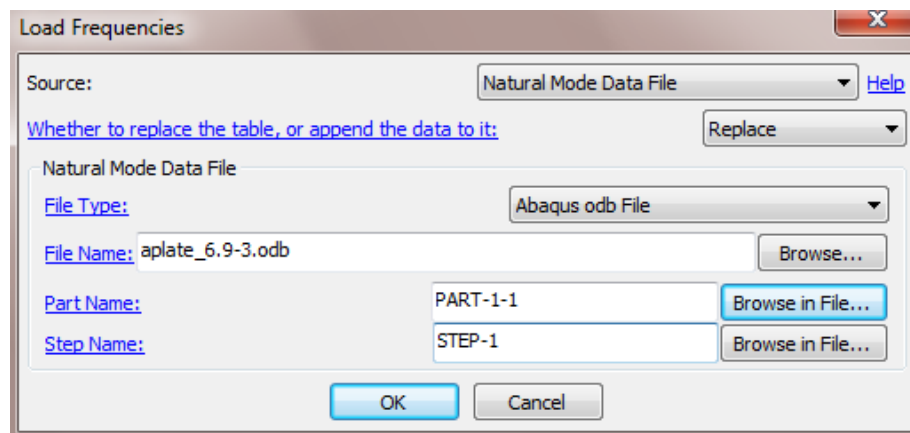

Figure 7.20 Load frequencies from the natural mode data file.
7.2.2.4. Natural Mode Data File Analysis frequencies could be extracted from a natural mode data file using this option (Figure 7.20). Select appropriate parameters and press OK to load natural frequencies. A new dialog box with a list of available natural frequencies from the natural mode data file appear. See Figure 5.8. Select the frequencies of interest by checking/unchecking a natural frequency or by using any of the buttons: **Select All**, **Unselect All**, or **Select by Frequency Range....** If there is no natural mode data available for the selected structure, an alert window will pop up with the same message.